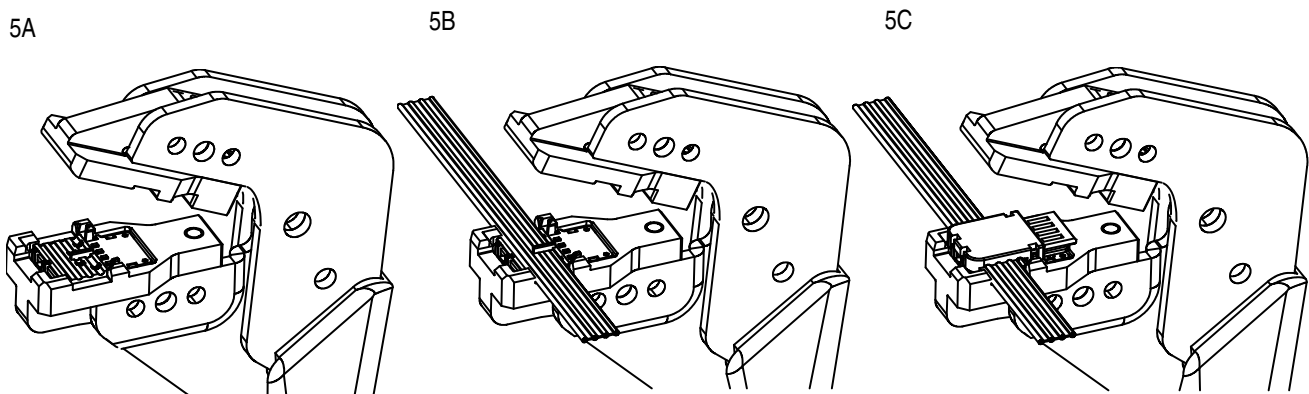

Figure 5
5.2. Crimping the Feed-Thru Connector (Figure 5)